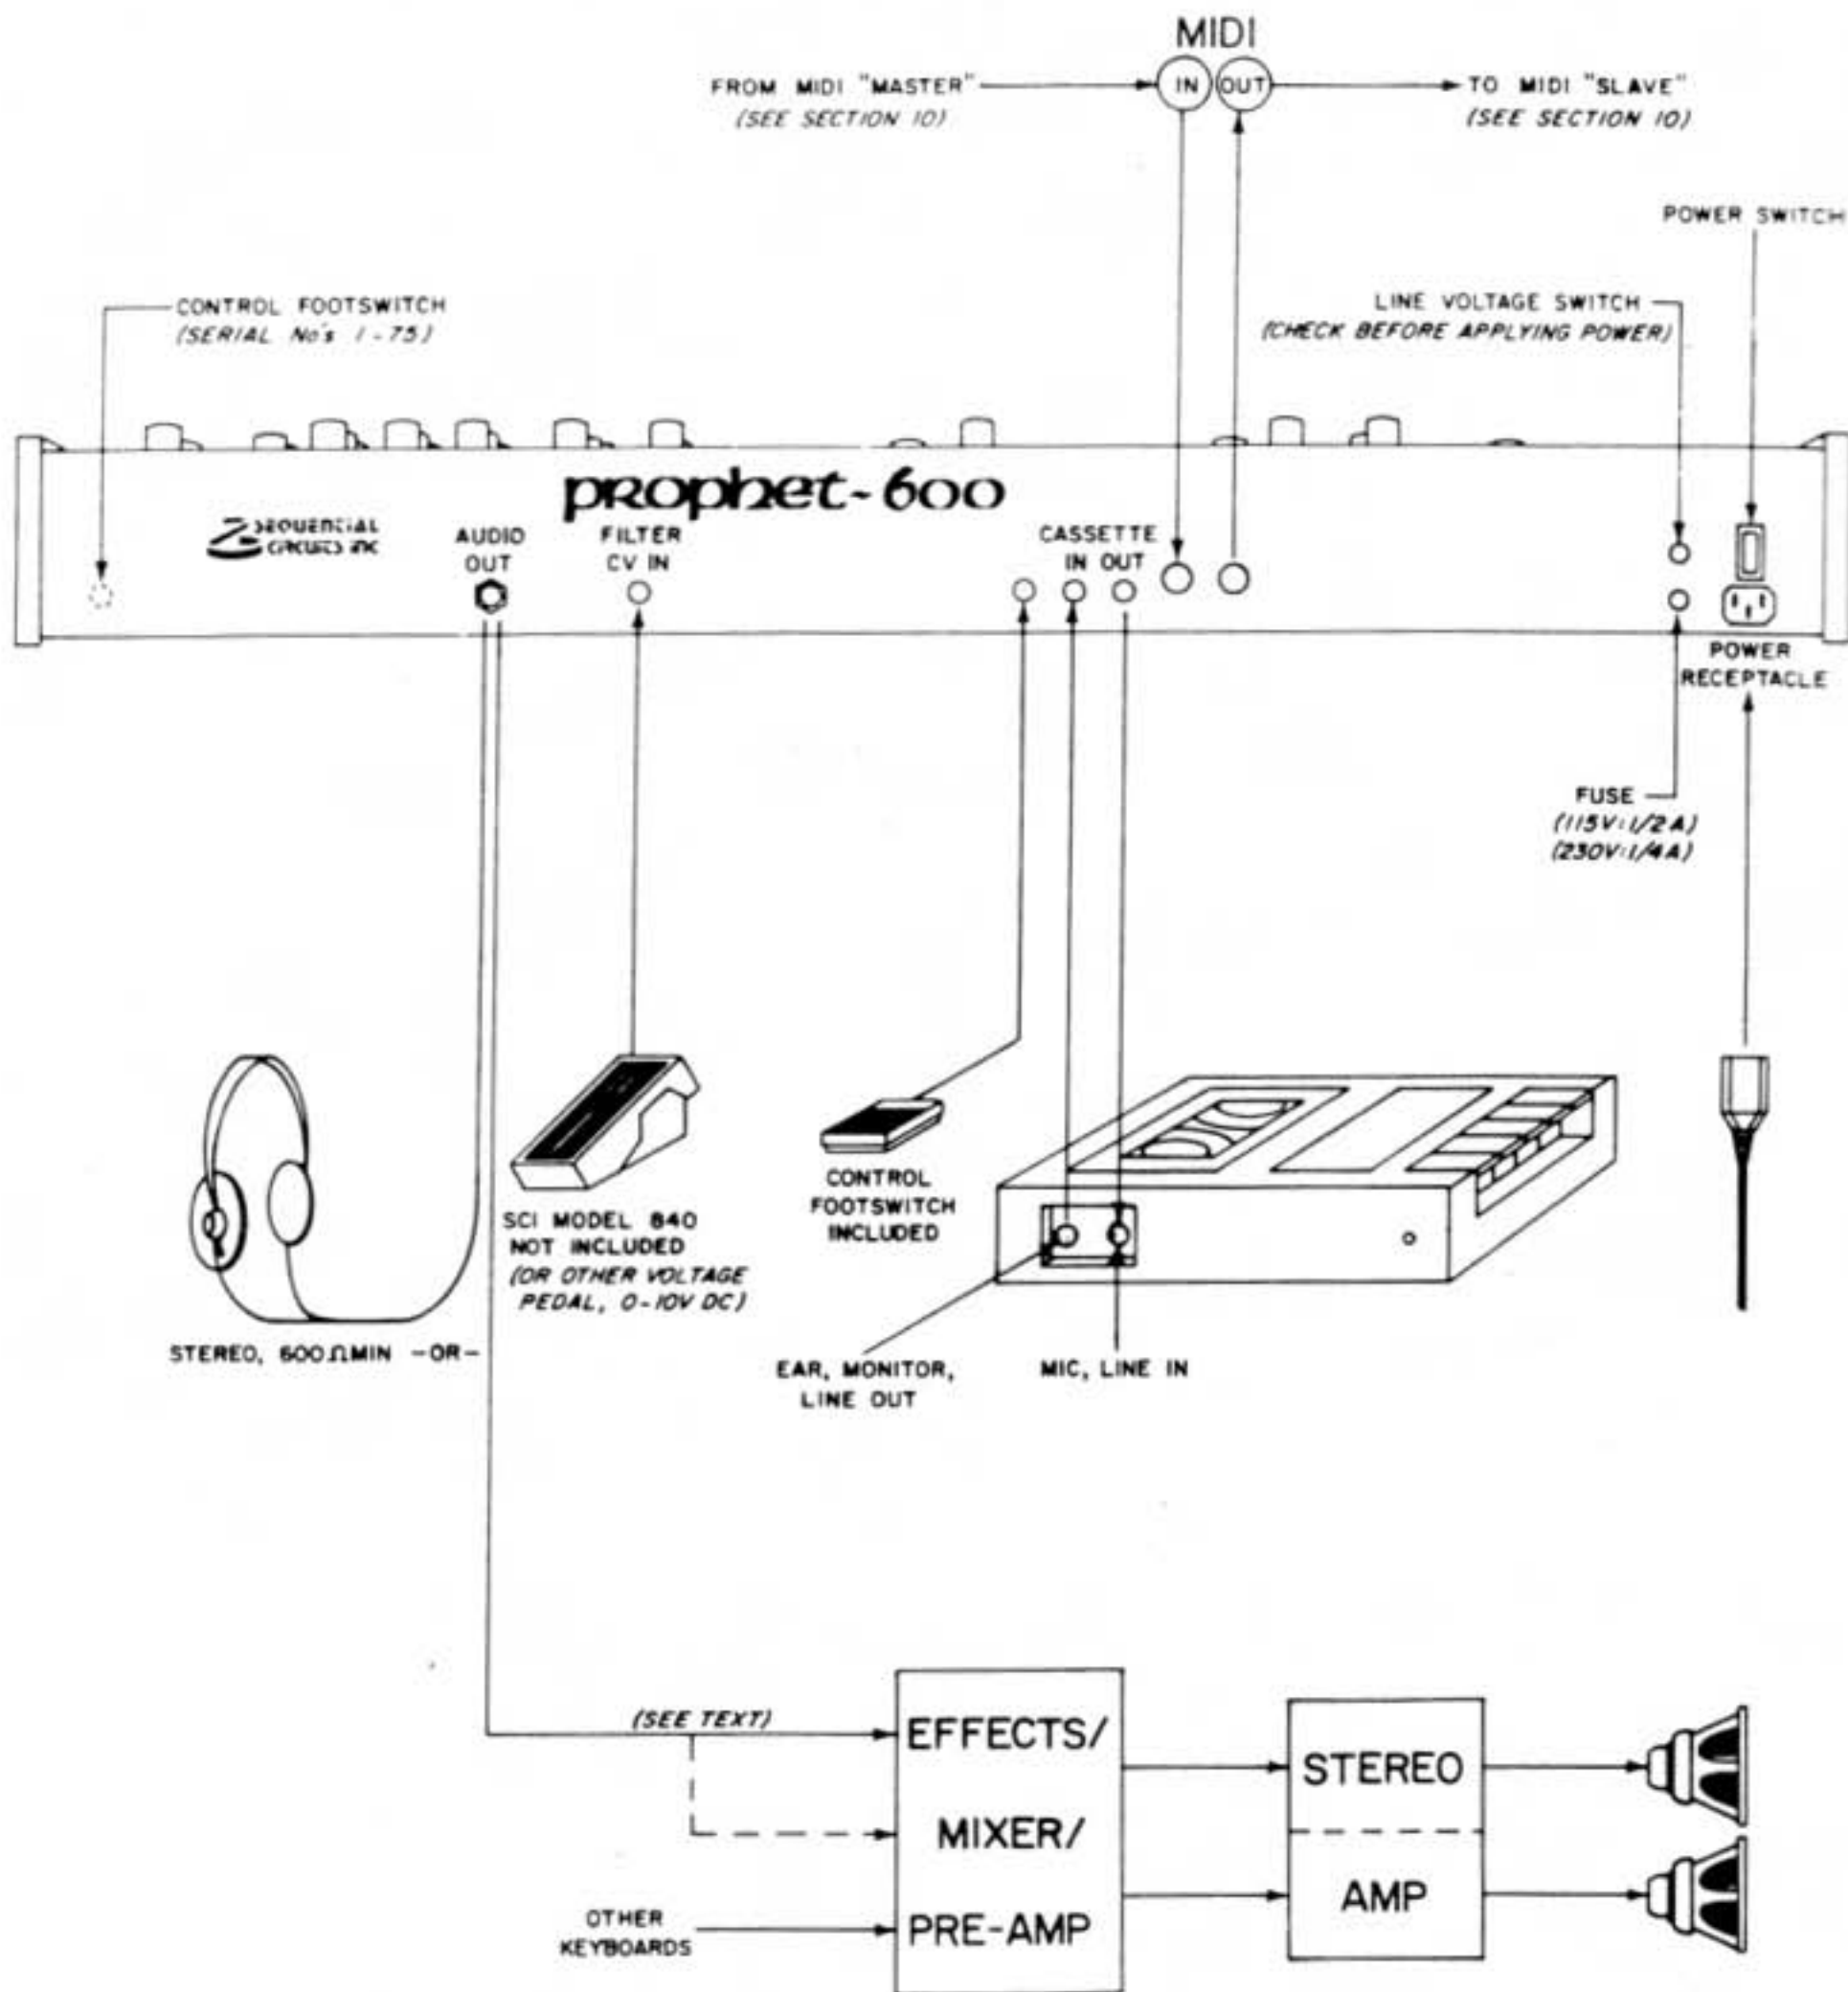

Figure 1-0
6. Connect the CASSETTE IN and OUT jacks to the recorder (see Figure 1-0).